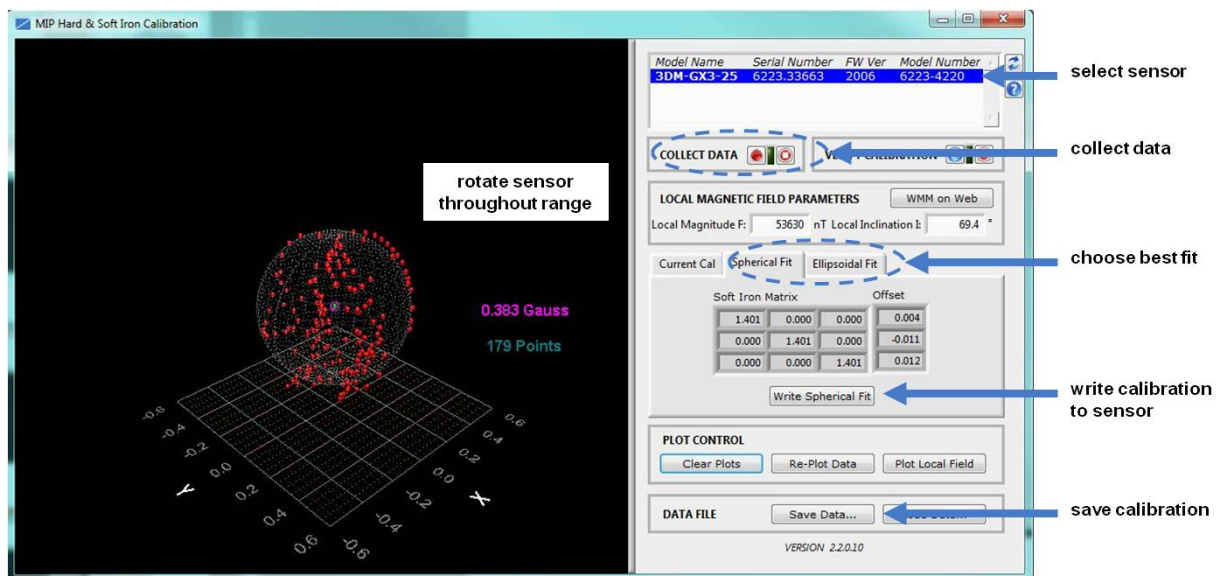

Figure 25 - Collect Calibration Data
4. Select the Arm Recording button next to Collect Data (Figure 25 - Collect Calibration Data). The software will begin taking readings, as indicated by the points counter in the graphing window. The maximum number of points is 1000, however 100 is usually adequate. As the readings are taken, rotate the sensor or sensor platform in all possible directions to get a complete profile of the baseline magnetic influences throughout the sensor frame. Data points will appear on the graph in red. For mobile sensor platforms, such as ground vehicles, move the platform as much as possible to simulate actual use without exposing it to excessive magnetic sources (like driving over railroad tracks or near steel pilings). The intention is to get a baseline of the platform in a neutral environment, that still accounts for the platform itself in all orientations. For stationary platforms the baseline may include significant magnetic influences if they will always be present during operation.
5. When all possible rotations are completed, select the Stop Streaming button next to Collect Data, and then select Save Data to save the calibration data points on the host computer (Figure 25 - Collect Calibration Data).